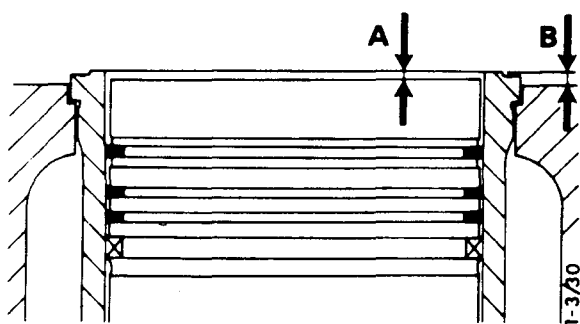

Fig. 4
2. When new pistons have been fitted, check the piston height on one of the cylinders. To do this, press the liner down with the aid of tool 98318 - see group 1a, AR 3 page 2. Then measure dimensions A and B according to fig. 4. Note that both dimensions must be measured from the uppermost surface of the liner. Measurement B minus A must be between 0.070 and 0.500 mm.
- see fig. 4. To do this, press the liner down with tool